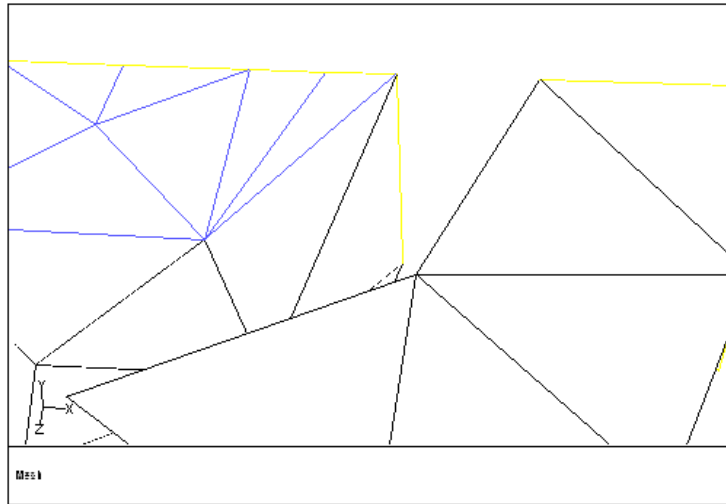

Figure 1.10: Surface Mesh After Merging Nodes
- (e) Click **Merge** in the **Operation** group box (Figure 1.10).